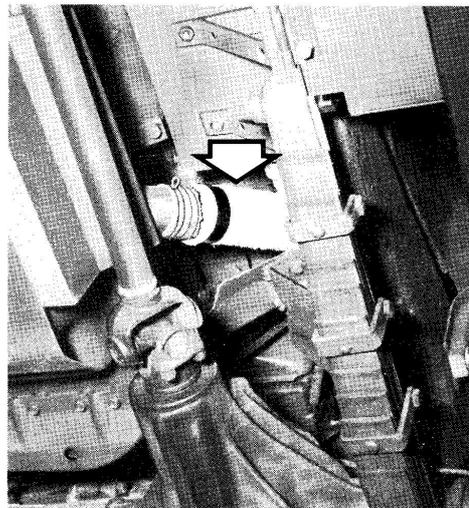

Fig. 22. Exhaust tube connected to oil pan shroud inlet.
- a. Connect one end of the 12-1/2" exhaust tube to the oil pan shroud inlet, Fig. 22.